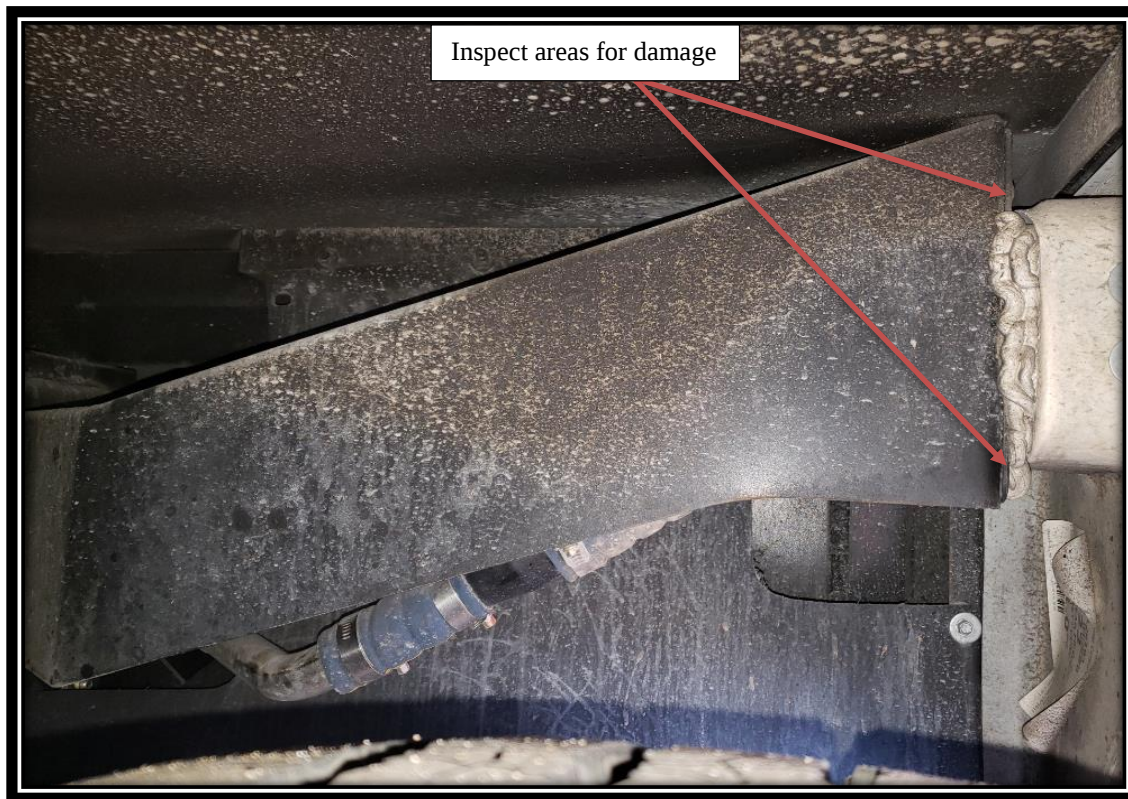

FIG. 2-1
5. Locate DEF fill support mounted in rear of tag axle wheel well and inspect for damage. Refer to FIG. 2-1.